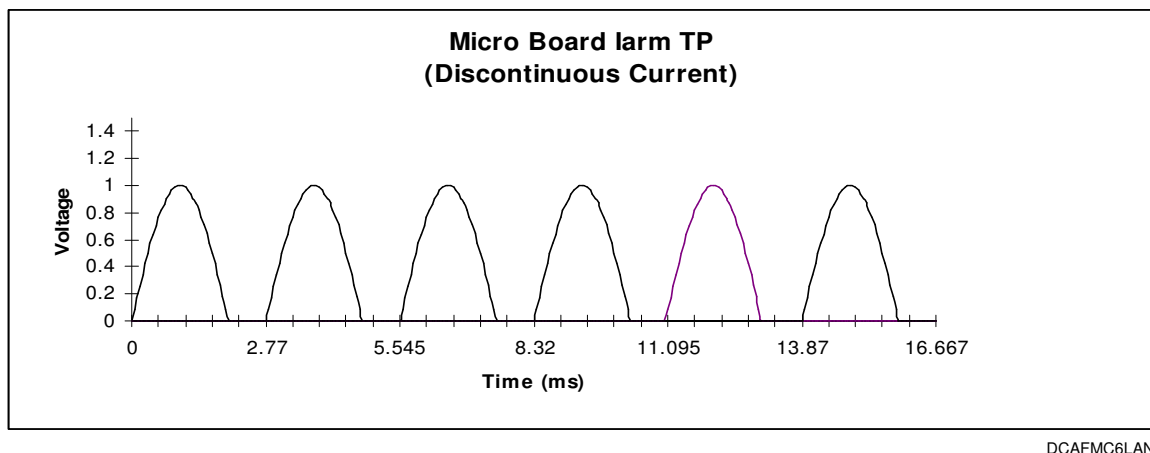

Figure 3-6. Micro Board Iarm TP (Discontinuous Current)
- 14) With an observable current flow at a burden resistor, move the scope probe to measure the TP1 test point on the bottom of the microprocessor board (TP2 is circuit common). If all wiring and CT polarities are correct, the waveform should resemble that of Figure 3-6. If you observe this waveform, go to step 24, or continue on to step 15 if you **do not** observe this waveform.
- 16) If the voltage observed on the scope is negative, instead of the positive pulses shown in Figure 3-6, reverse all CT polarities. If the CT leads are difficult to reach, switch the wires for all CTs at J1 of the SCR Firing Adapter.